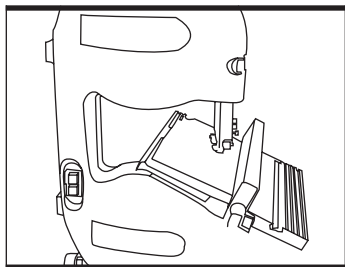

Fig 20
3. Angle cuts and double mitre cuts (See Fig20 & 21)